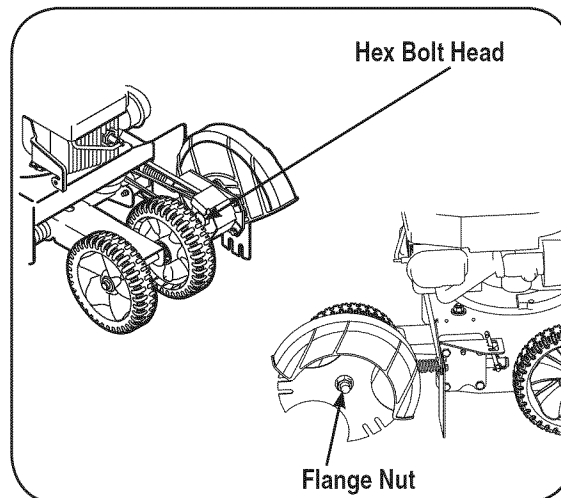

Figure 5-6: Remove the flange nut to remove blade.
4. Use two wrenches (one wrench to prevent the hex bolt head from spinning and the other to unthread the flange nut) to remove the flange nut that secures the edger blade, leaving the edger blade in place, Figure 5-6.